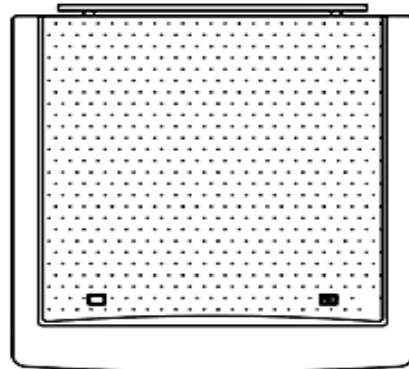

fig. 2
1. Remove the 2 cover caps on the worktop carefully with a small pointed object and unscrew the 2 worktop-screws (fig. 1). Then unscrew the screws on the back. Remove the worktop and the top hinge bracket (fig. 2).
7. Place the worktop upside down. Remove the hinge bracket (with axis, fig. 2) and fix it on the opposite side. Do not tighten the screws too firmly.